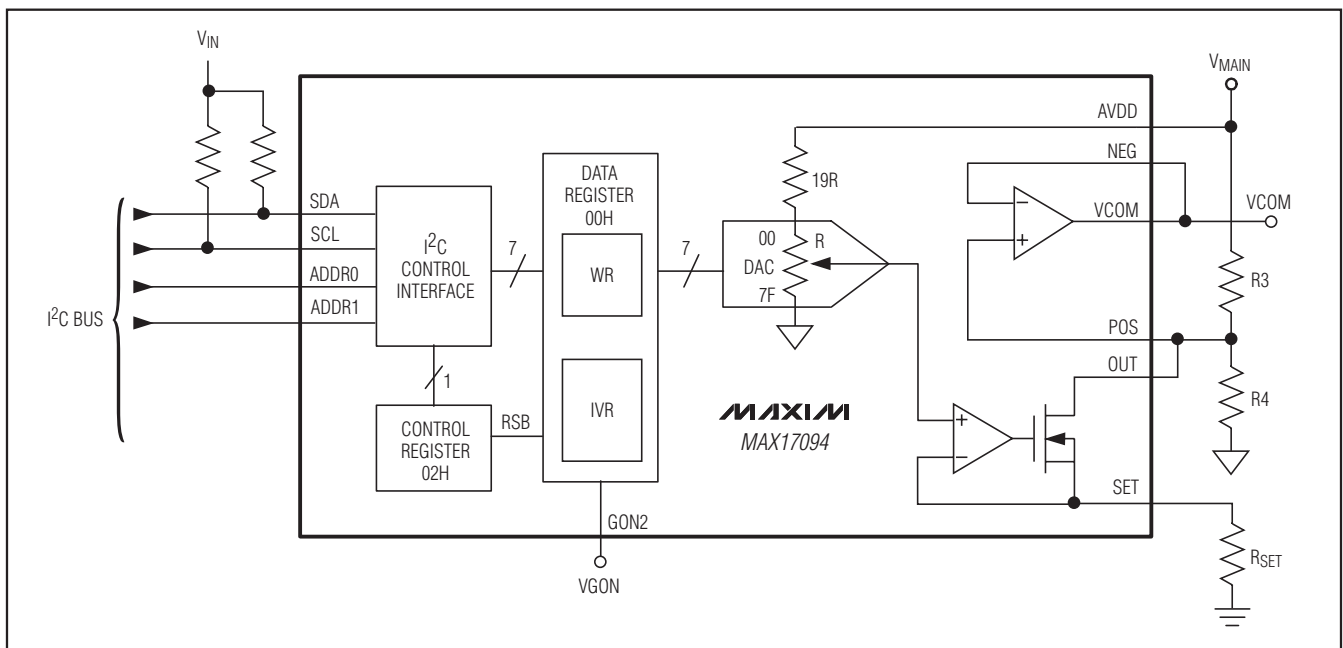

Figure 5. VCOM Calibrator Functional Diagram
The VCOM calibrator is a solid-state alternative to mechanical potentiometers used for adjusting the LCD backplane voltage (VCOM) in TFT LCD displays. OUT attaches to the external resistive voltage-divider at the POS terminal of the op amp and sinks a programmable current (I_{OUT}), which sets the VCOM levels (Figure 5). The DAC setting that controls the wiper setting of the potentiometer is directly determined by the value stored in the wiper register (WR). Changing the value in WR allows the user to change the wiper position to increase or decrease the VCOM levels. The user can store a WR setting into the nonvolatile initial value register (IVR) such that on power-up, WR is preset to the last stored value in IVR. The 2-wire I²C interface between the system controller and the programming circuit adjusts WR and programs IVR. The resistive voltage-divider and AVDD supply set the maximum value of VCOM. OUT sinks current from the voltage-divider to reduce the POS voltage level and VCOM output. The external resistor at SET (R_{SET}) sets the full-scale sink current and the minimum value of VCOM.